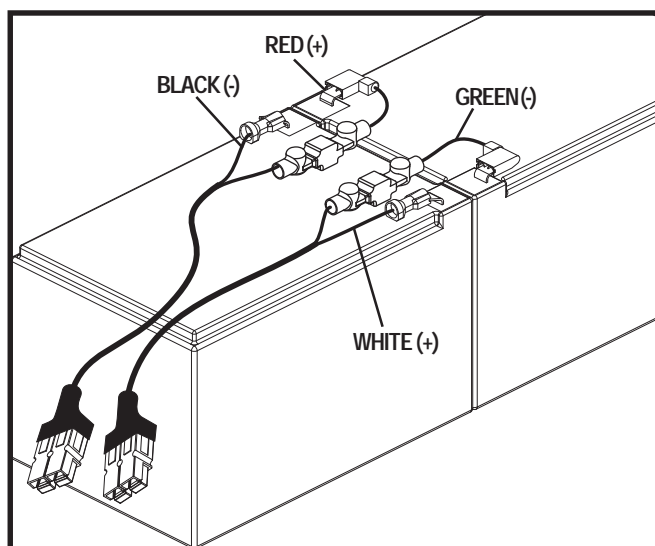

Figure 14. Battery Harnesses and Battery Cables
3. Reconnect the battery cables to the battery terminals of each new battery. See **figures 14 and 15**.